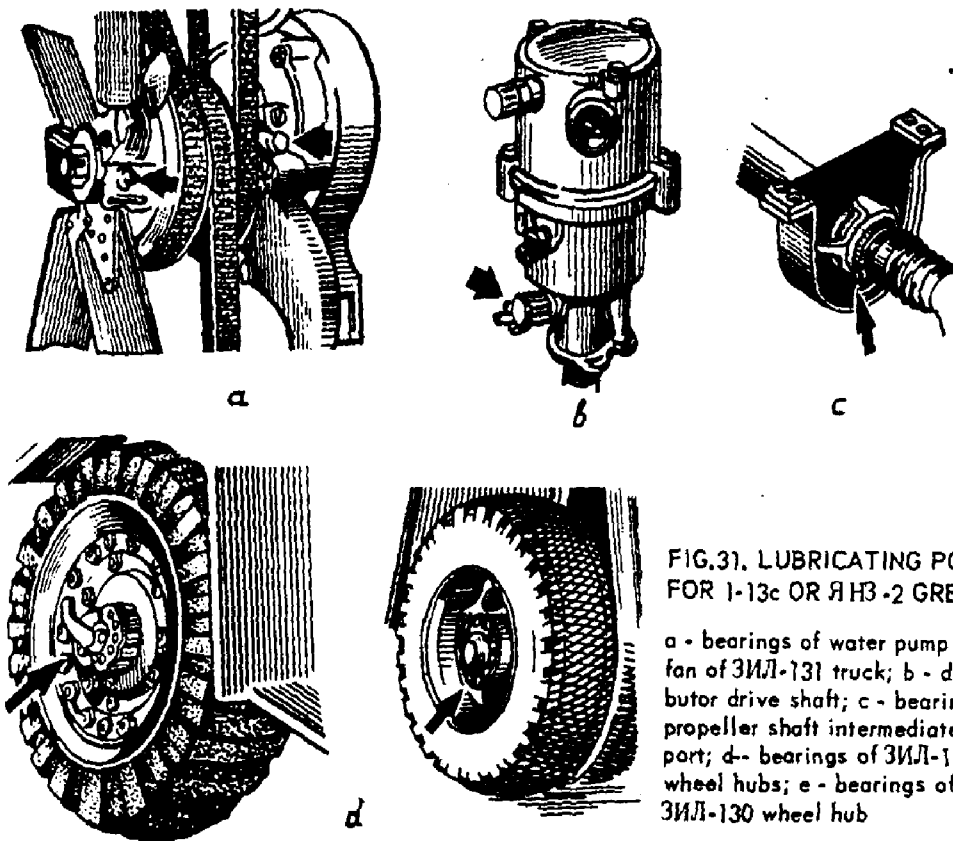

FIG.31. LUBRICATING POINTS FOR 1-13c OR ЯНЗ-2 GREASE
38. Using grease 1-13c, БТМ НН5-58 or grease РН3-2, GOST 9432-60 (Fig.31), lubricate the following parts: